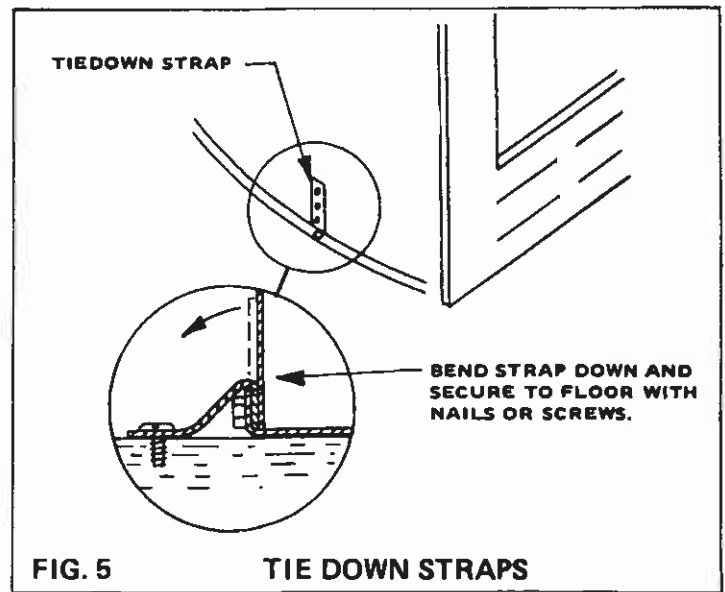

FIG. 5 TIE DOWN STRAPS
STEP 5: Secure the fireplace to the floor of the mobile home to prevent shifting. Use the tie down straps provided with the fireplace. SEE FIG. 5.